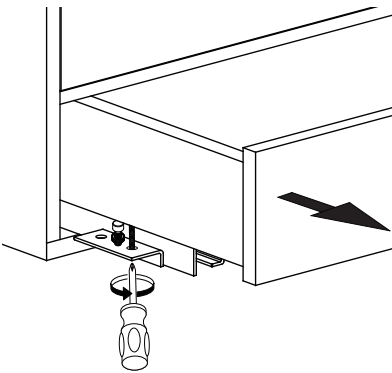
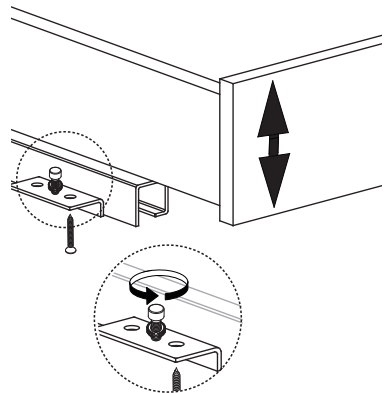

Fig. 4 - Drawer Removal
Fig. 5 - Drawer Adjustment
1. HiB recommends removing the drawers prior to installation. *See Fig. 4., overleaf.*
Locate and remove the securing screws on the underside of the drawer, see Fig. 4. Turning the adjuster wheel will alter the pitch of the drawer front, see Fig. 5. When adjustment is complete, re-insert the securing screws.